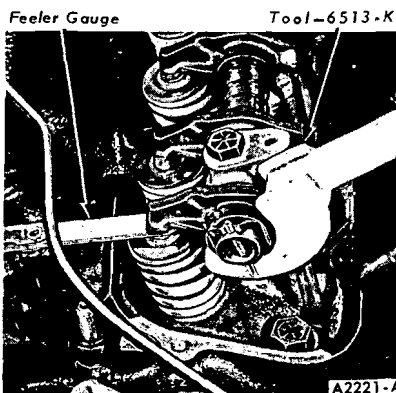

FIG. 15—Valve Clearance Check—170 and 200 Six
3. Using Tool—6513-K apply pressure to the push rod end of the rocker arm (Fig. 15) to slowly bleed down the valve lifter until the plunger is completely bottomed. Hold the lifter in this position and check the available clearance between the rocker arm and the valve stem tip with a feeler gauge.